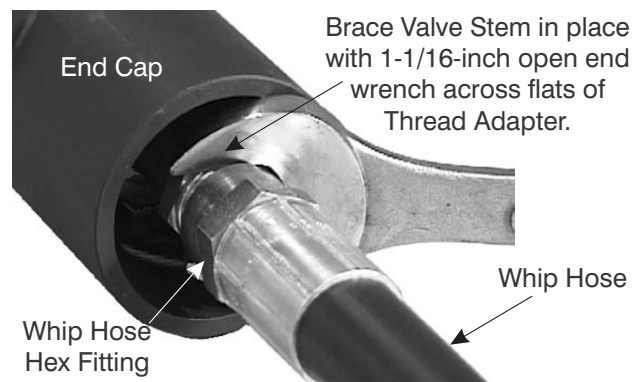

Figure 8-20. Hold Thread Adapter in Position
3. Fit a 1-1/16-inch open-end wrench across the exposed flats of the Thread Adapter (3). Brace the wrench against the edge of the End Cap and pry the Adapter outward with enough force to prevent the Valve Stem from pulling back into the End Cap. See Figure 8-20.